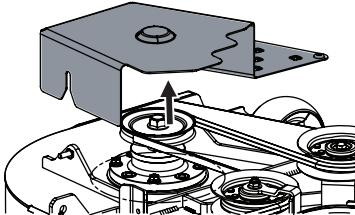

Figure 49
- Remove the belt covers from the deck (Figure 49).